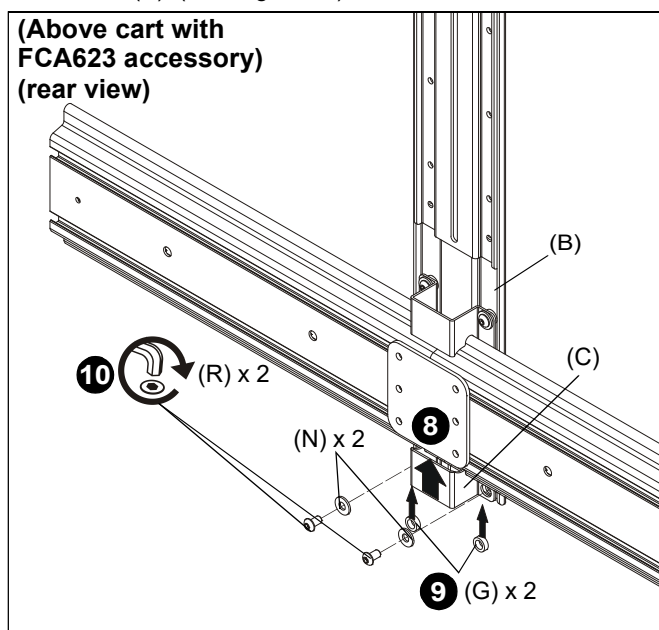

Figure 20
8. Slide second shelf bracket (C) underneath head assembly, lining up holes on shelf bracket (C) to holes on main bracket (B). (See Figure 20)
9. Slide two 1/2" spacers (G) in between shelf bracket (C) and main bracket (B). (See Figure 20)
10. Use two 1/4-20 x 1/2" button head cap screws (R) and two large washers (N) to secure shelf bracket (C) to main bracket (B). (See Figure 20)